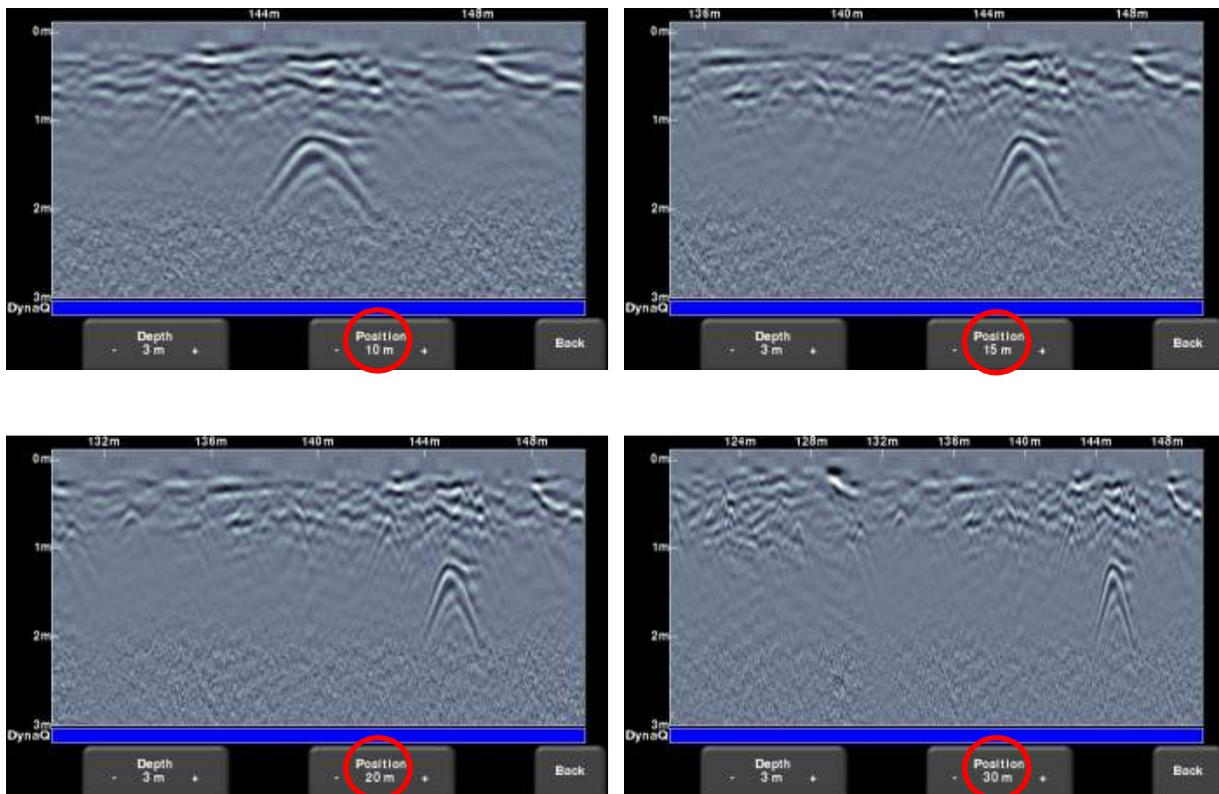

Figure 6-8: Varying position, or horizontal scaling
- **Position** – Pressing **+** and **-** under the **Position** button allows you to change the length of data display on a single screen. This is also known as horizontal scaling. The pre-set values range from 10m to 30m (25' to 100'), see Figure 6.8. One reason for setting this to 30m would be to fit more data on the screen and look for consistency among hyperbolas that were crossed.